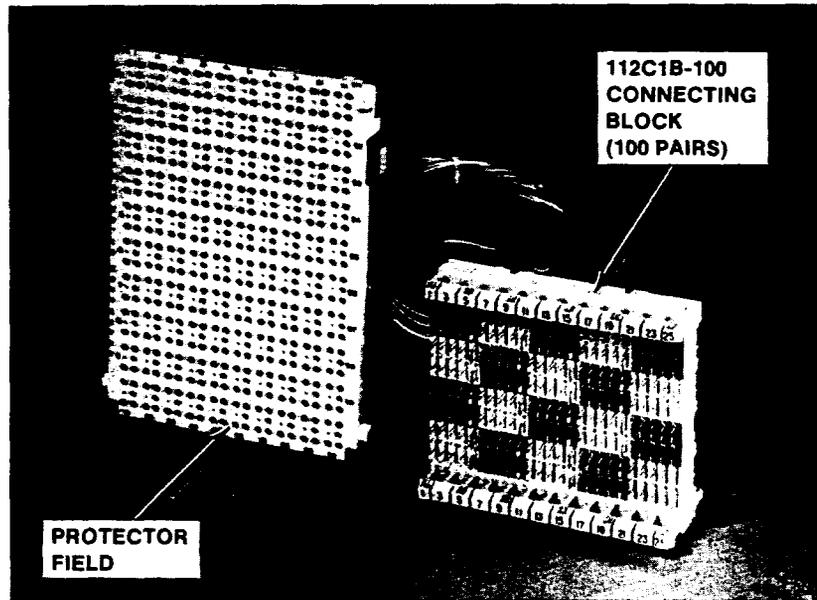

Figure 4. 407F1-100 Connector — Front View
2.04 The 407F1-100 connector (Figures 4 and 5) has a plug-in unit panel interconnected to one 100-pair 112H1B-100 (high-density) connecting block. The connector mounts on shelves 2 through